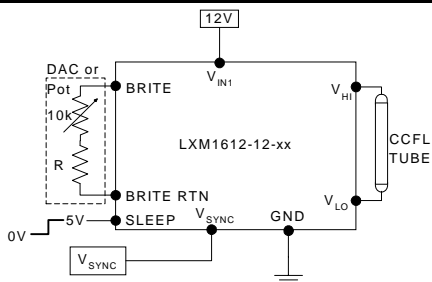

Figure 5 - Potentiometer Brightness Control
- The brightness control may be a voltage output DAC, digital resistor or a simple 10k potentiometer. If desired, an additional series resistor with the 10k potentiometer can be used to set a higher minimum brightness setting as shown in Figure 5. A 2.5V to 5V Logic Level PWM signal from a micro-controller may also be used as shown in Figure 5A.